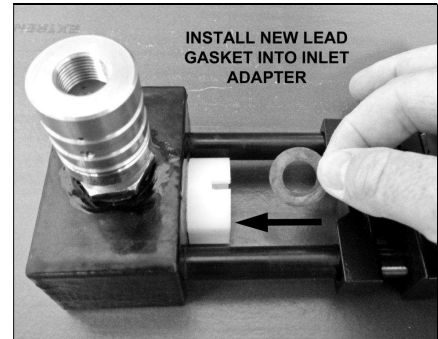

FIGURE 4.2.3 – Lead Gasket Installation
- 4.2.1.3 **REMOVE** the old lead gasket from the INLET ADAPTER, discard it, and **REPLACE** it with a new one (see **FIGURE 4.2.3**).